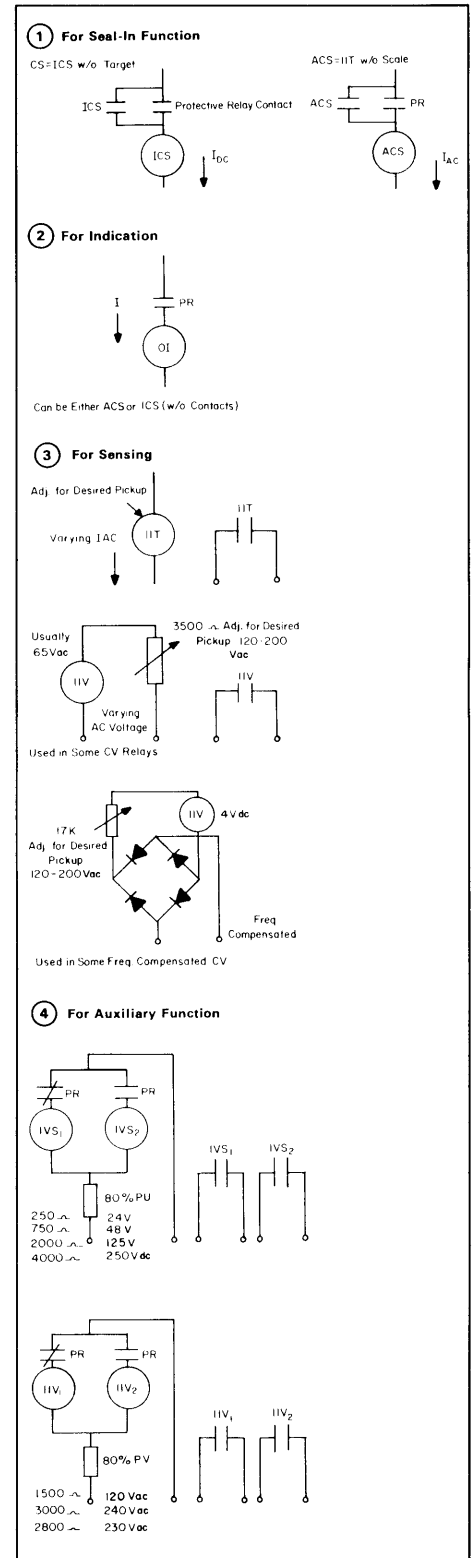

Fig. 7
The dc contactor switch is a small solenoid type switch. A cylindrical plunger with a silver disc mounted on its lower end moves in the core of the solenoid. As the plunger travels upward, the disc bridges three silver stationary contacts. The coil is in series with the main contacts of the relay and with the trip coil of the breaker. When the relay contacts close, the coil becomes energized and closes the switch contacts. This shunts the main relay contacts, thereby relieving them of the duty of carrying tripping current. These contacts remain closed until the trip circuit is opened by the auxiliary switch on the breaker. See Figure 7 - Item ①.